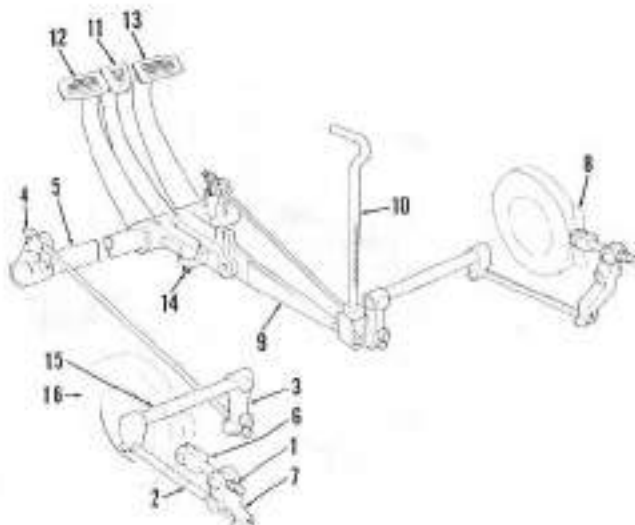

Fig. 145—View of final drive (F) and brake housing (H) showing brake adjustment points on models with disc brakes.
216. Wear of brake facing material will necessitate adjustment of brakes. Clean dirt from around all of the adjustment areas before removing any covers or plugs. Remove cover (4-Fig. 145) and plug (P) from housing on each side. Fully apply brake and measure clearance (C) between clevis pin and edge of opening as shown. Clearance (C) should be 5/16-inch and can be changed by turning adjuster nut (1). Check for even adjustment by depressing center pedal and noticing position of the two outside pedals. Turn adjusting nut (1) as required so that outside pedals remain level when center pedal is depressed. Use new
around all adjustment areas before removing any covers or plugs. Remove cover (4-Fig. 145) and plug (P). Release hand brake, pull center pedal up, loosen locknuts (N-Fig. 146), then turn adjusting screws (S) as required to
218. To remove the brake discs, first refer to paragraph 207 and remove the final drive assembly. Unbolt and remove brake housing (II-Fig. 145) then withdraw brake discs and actuator. Refer to Fig. 147.
When assembling, the four lined discs (15-Fig. 147) and three separator plates (21) should be toward final drive housing (F-Fig. 145). Two discs and one separator should be next to brake housing (H). Refer to paragraph 216 for adjustment after installation.